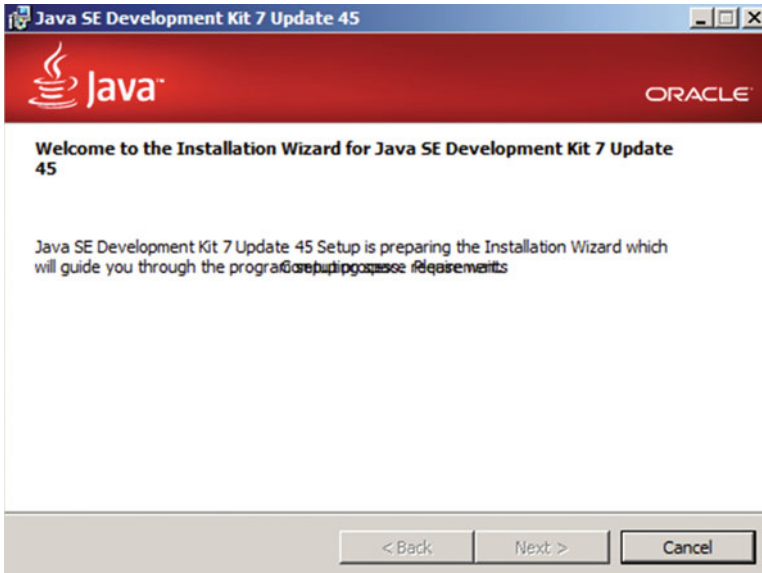

Figure 1-3. Step 1 of the JDK Installation
1. Double-click the file `jdk-7u45-windows-i586.exe`, and you will see the screen shown in Figure 1-3. Then, click the *Next* button.